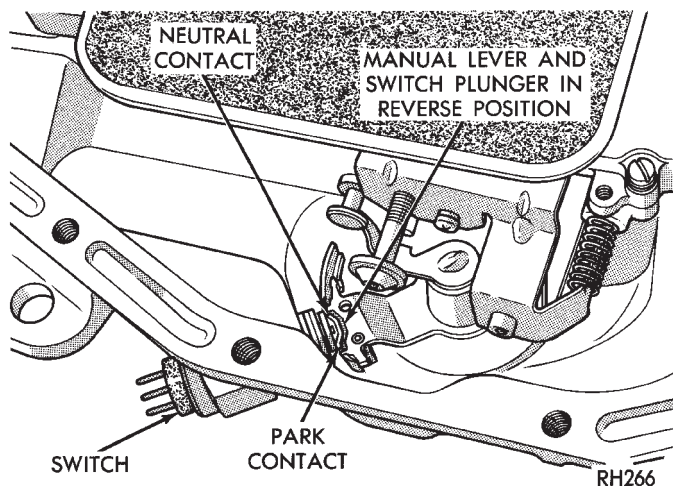

Fig. 12 Park/Neutral Position Switch Contacts
(1) Raise vehicle and position drain pan under switch.
(2) Disconnect switch wires and remove switch from case.
(3) Move shift lever to Park and Neutral positions. Verify that switch operating lever fingers are centered in switch opening in case (Fig. 12).
(4) Install new seal on switch and install switch in case. Tighten switch to 34 N•m (25 ft. lbs.) torque.
(5) Connect switch wires, lower vehicle and top off transmission fluid level.